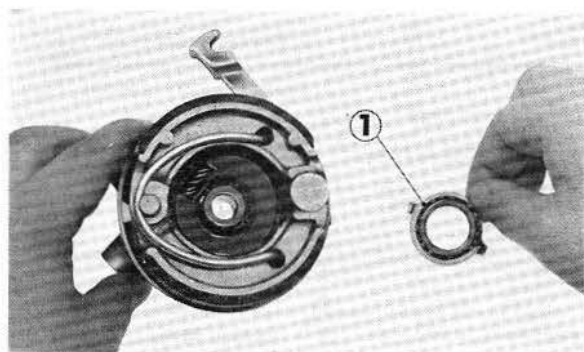

Fig. 4-3 ① Speedometer gear
5. Remove the speedometer gear from the front brake panel. (Fig. 4-3)